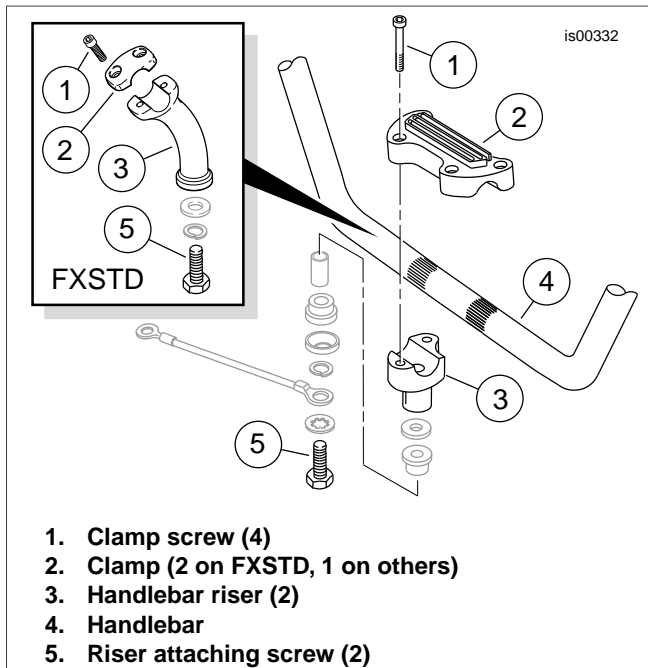

Figure 2. Handlebar Clamps and Risers
10. See Figure 2. Remove and discard the 4 hex socket head screws (1) that fasten the handlebar upper clamp (2) to the risers (3). Discard the clamp. Remove the handlebar (4).